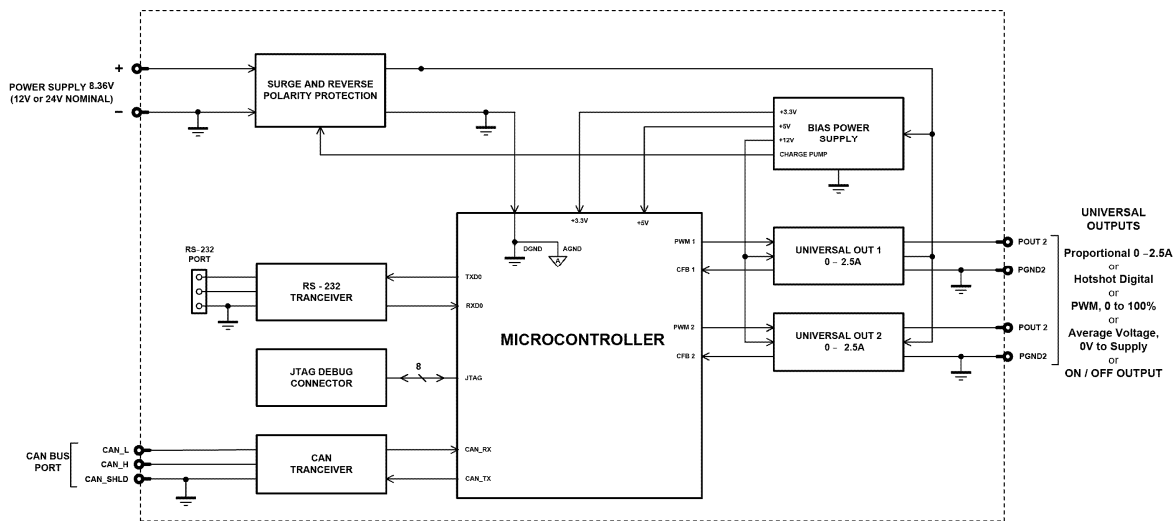
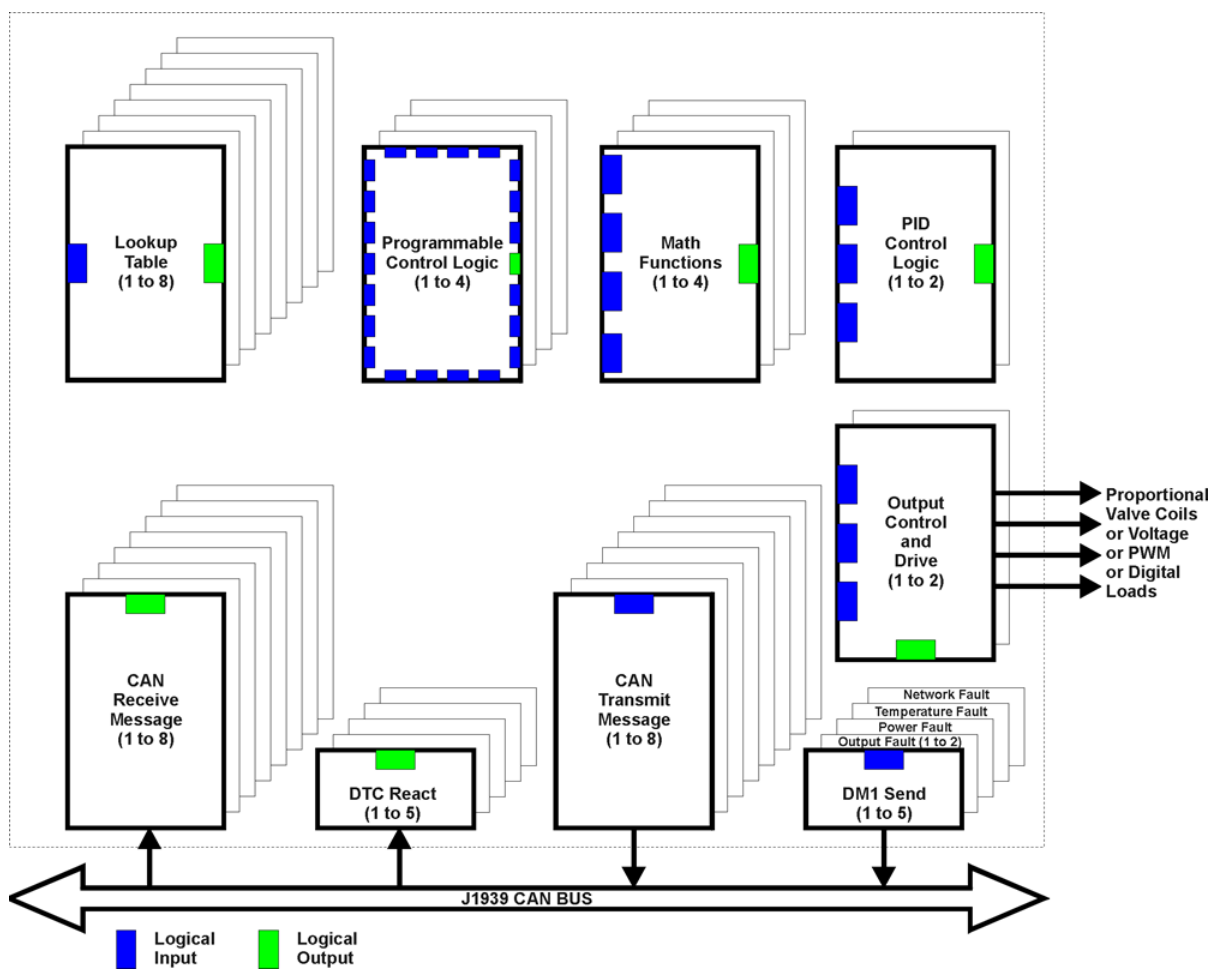

Figure 1A – Hardware Functional Block Diagram
Figure 1B – Software
**Description:** The CAN to Dual Output Valve Controller is a highly programmable controller, allowing the user to configure it for their application. It must be integrated into a CAN J1939 network of controllers. Its sophisticated control algorithms allow for open or closed loop drive of the proportional outputs. All logical function blocks on the unit are inherently independent from one another, but can be programmed to interact in a large number of ways. While Figure 1A shows the hardware features, Figure 1B shows the logical function blocks (software) available on the CAN-2O. All setpoints are user configurable using the Electronic Assistant®.